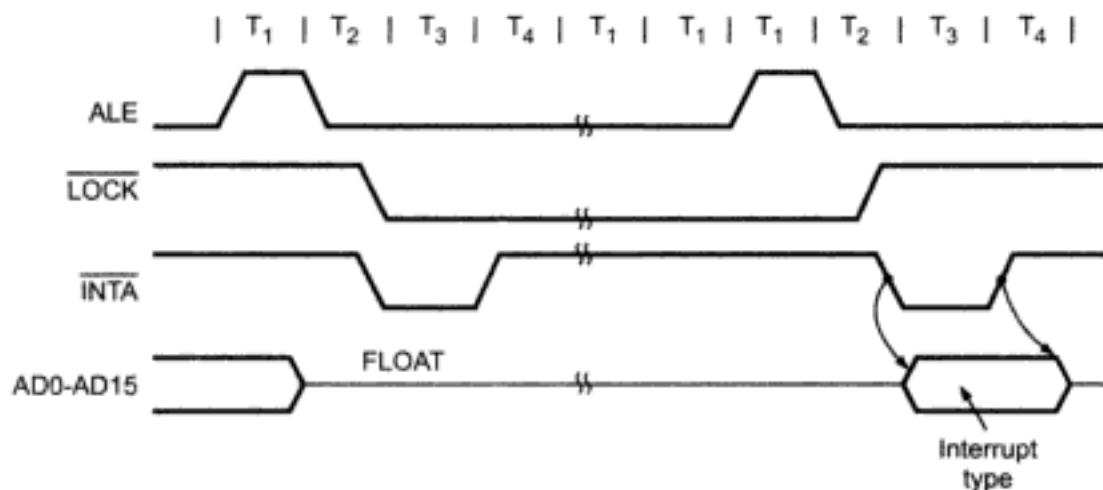

Fig. 8.3 Interrupt acknowledge machine cycle
1. The 8086 first does two interrupt acknowledge machine cycles as shown in the Fig. 8.3 to get the interrupt type from the external device. In the first interrupt acknowledge machine cycle the 8086 floats the data bus lines AD₀-AD₁₅ and sends out an INTA pulse on its INTA output pin. This indicates an interrupt acknowledge cycle in progress and the system is ready to accept the interrupt type from the external device. During the second interrupt acknowledge machine cycle the 8086 sends out another pulse on its INTA output pin. In response to this second INTA pulse the external device puts the interrupt type on lower 8 bits of the data bus.